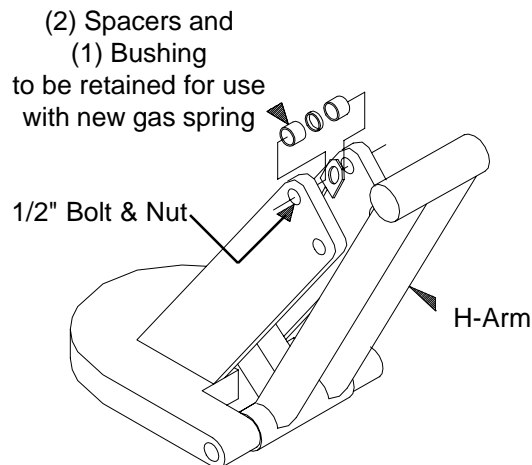
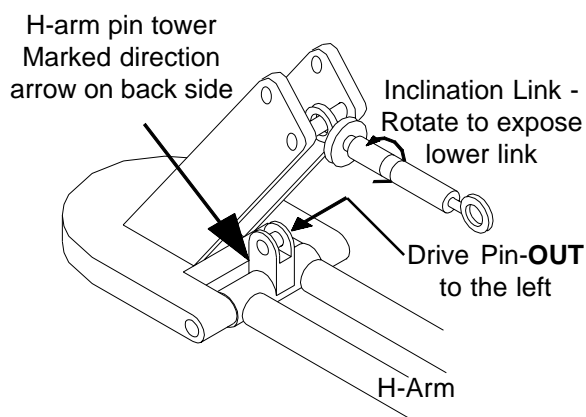

Figure 1
Figure 2
3. Raise H-Arm to it's up most position (*See Figure 1*).
5. Remove (2) Spacers and (1) Bushing and retain for use with new gas spring.
6. Once the top of gas spring has been released lower the H-Arm to the lowest position and turn the inclination link until the lower gas spring pin is exposed out past the printhead tower. (*See Figure 2*)
7. Using a mallet and a 6" long drift punch, drive the lower gas spring out from right to left as you face the printhead. (*See Figure 2*). Follow the direction of the arrow marked on the backside of the H-arm pin tower. **The pin is tapered slightly and will not fit together correctly if removed in the wrong direction.**
10. Reinstall bottom of new gas spring. Drive the pin you removed in Step 7 from left to right as you face the printhead. (*See Figure 2*). Do not drive pin in flush; retain approximately 1/8" if the pin outside the pin tower until Step 11 is complete. Drive the pin in the **opposite** direction of the arrow marked on the backside of the H-arm pin tower. **The pin is tapered slightly and will not fit together correctly if removed in the wrong direction.**